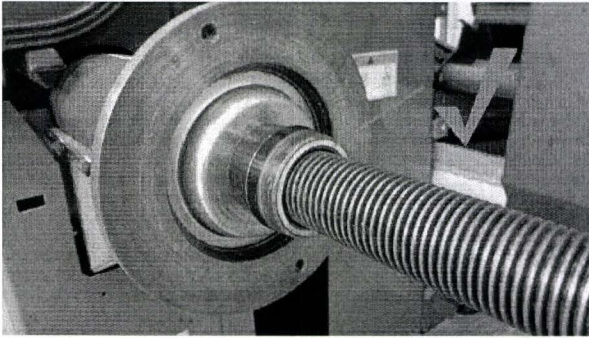

Figure 3
- The cone must be fitted on the spindle as shown in Figure 3 ensuring the White face of the cone is facing towards the end of the spindle